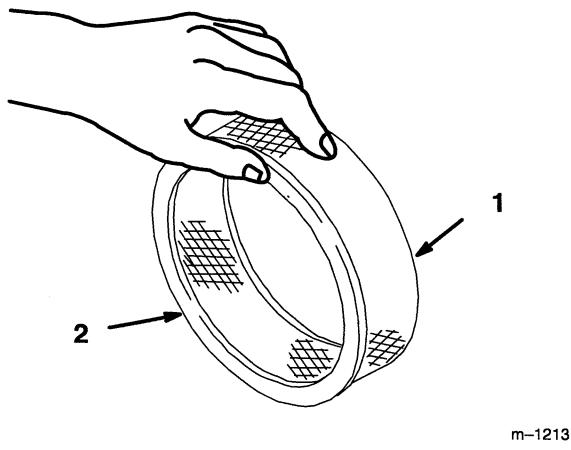

Figure 17
- Lightly tap the element on a flat surface to remove dust and dirt (Fig. 17).